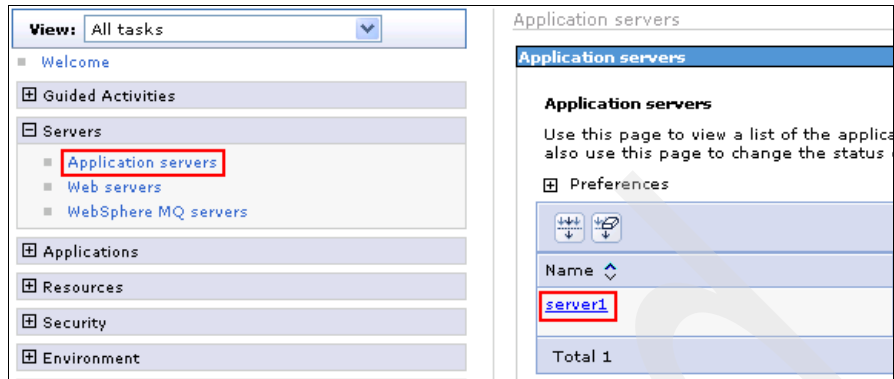

Figure A-7 Navigating to the WebSphere Business Monitor server
2. In the administrative console (Figure A-7 on page 745), expand **Servers** and click **Application servers**. In the right pane, click **server1**.